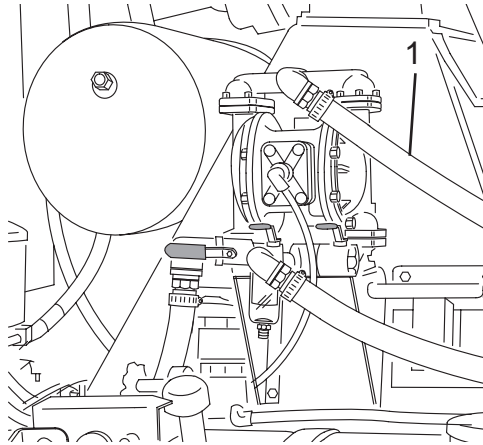
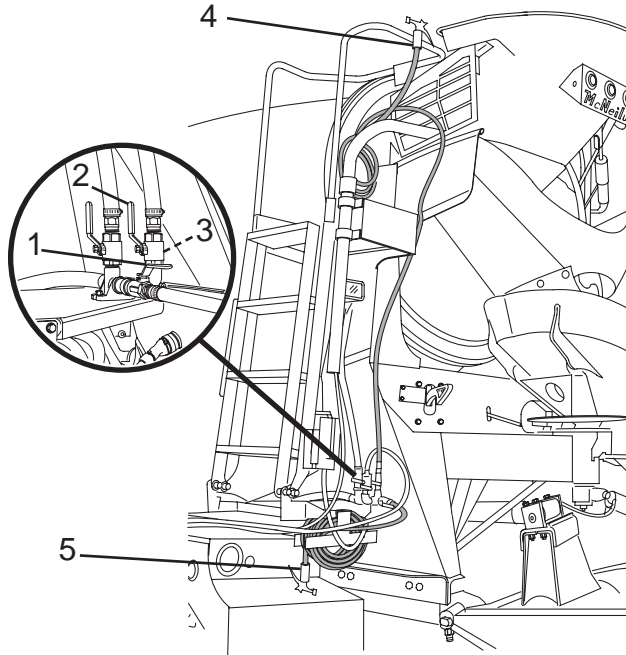

Figure 84
Figure 85
14. Open the drain petcock located at the lowest point in the supply hose (Figure 84, Item 1).
The Mixer is equipped with a hose (Figure 85, Item 5) at the rear of the Mixer. The flow to the hose is controlled by a ball valve (Figure 84, Item 1). The Mixer may also be equipped with additional (optional) hoses. **NOTE: The fins, charge hopper, collector, and other components on the rear of the Mixer can be washed from the ground instead of standing on the platform.**
An optional upper water hose (Figure 85, Item 4) is available to make cleaning of the charge hopper and drum easier.
The flow to the hose is controlled by a ball valve (Figure 84, Item 2) located at the rear of the Mixer.
The valves may be equipped with a drain option. This feature automatically drains the water from the hose beyond the valve, through a small hole at the rear of the valves (Figure 85, Item 3).